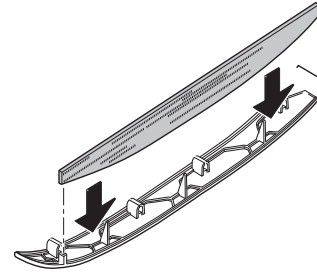

Fig. 39
- ▶ Insert new filters in the panels (Fig. 39).